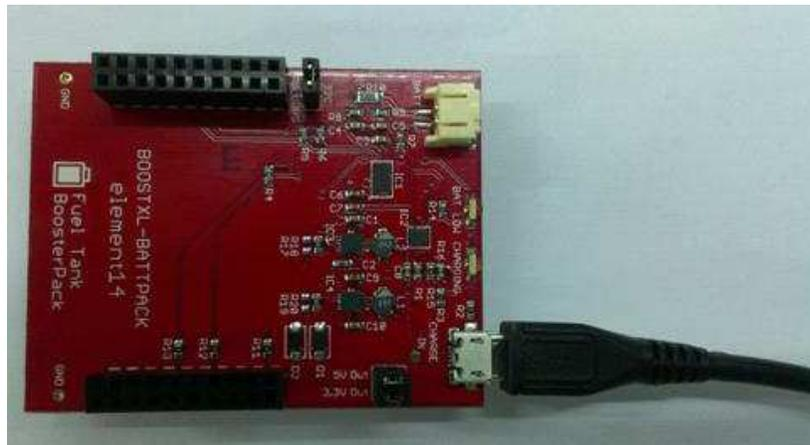

Figure 20.
3. Connect the BoosterPack with a USB cable to the PC as shown in Figure 20: